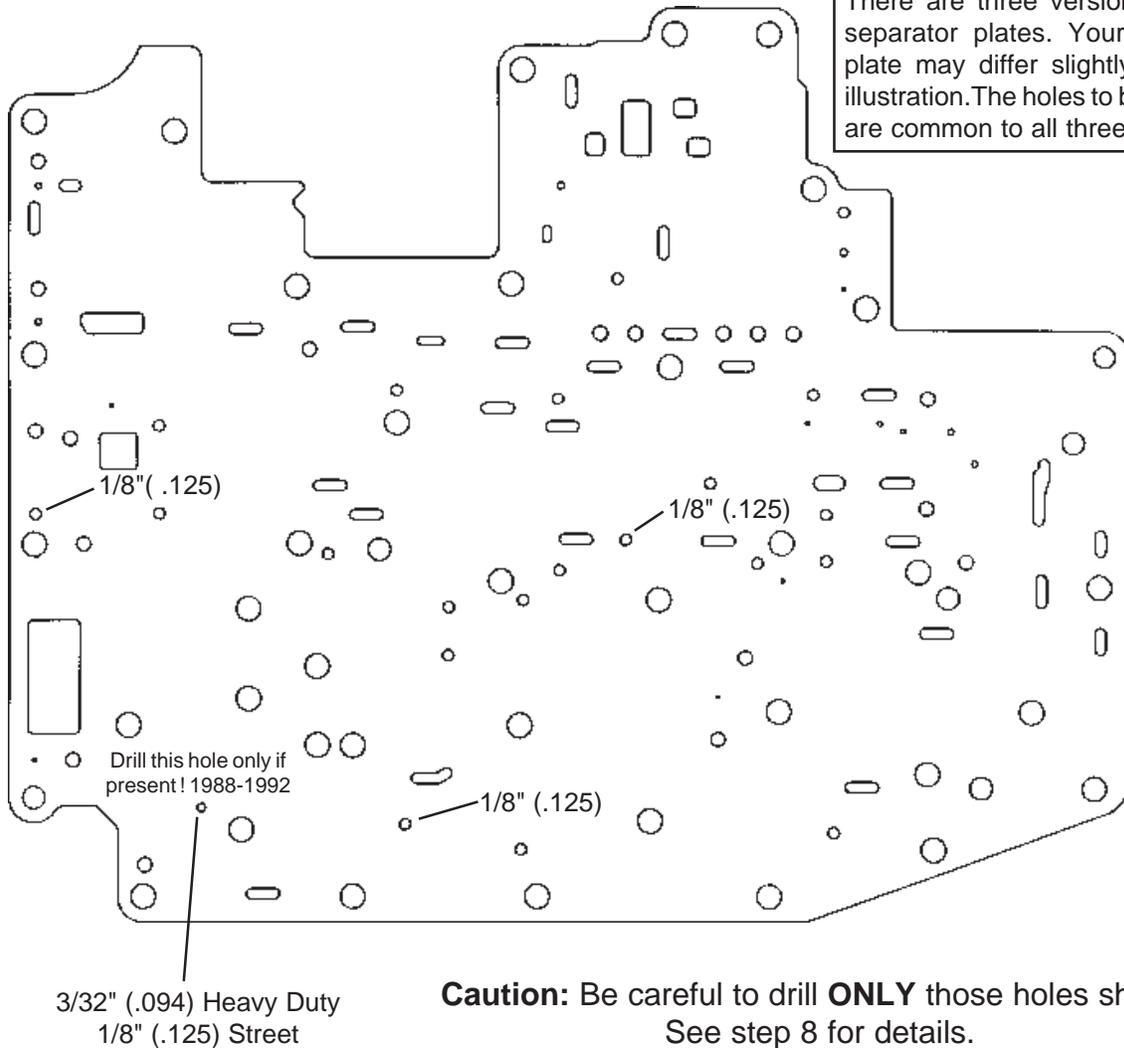

Figure 5
**STEP 8. Heavy Duty and Street;** Drill holes shown as in Figure 5. Remove all sharp burrs from plate surface with a fine flat file. Burrs can be